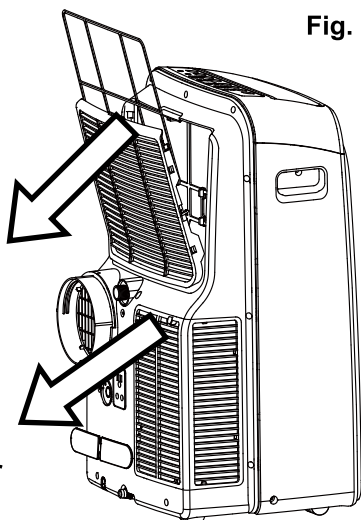

Fig. 7b
- Switch off the air conditioner and the Silvershield pre-filter and 3M filter from the unit (Fig. 7a and Fig. 7b)